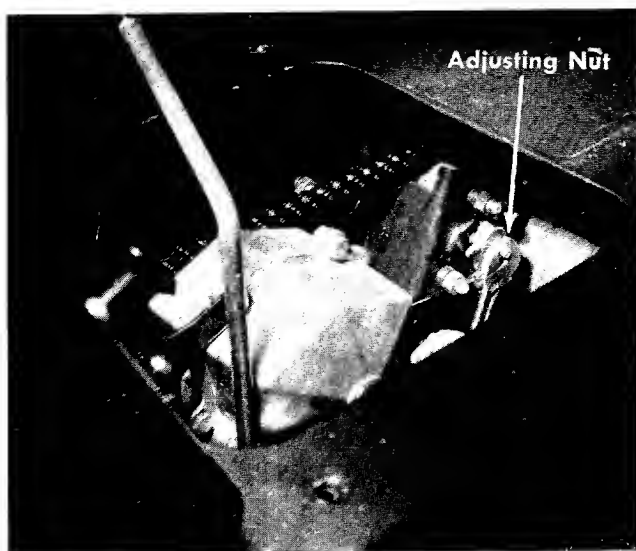

FIGURE 34. BRAKE ADJUSTMENT
Step 3. Try and push the rider. If the rider can be moved tighten the brake adjustment nut as shown in figure 34.